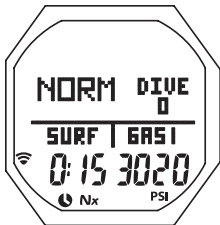

Fig. 26A - NORM SURF MAIN
**NORM SURF MAIN**, information includes (Fig. 26A/B):